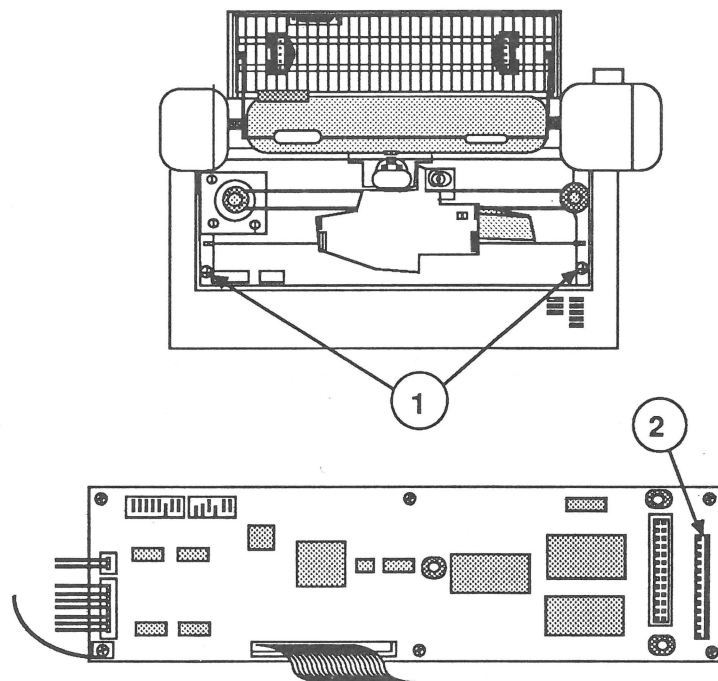

FIGURE 9
7. Loosen the two screws (Figure 9, #1) that secure the front cover, and remove the cover.
8. Be sure to detach the control panel cable from its connector (Figure 9, #2) on the right side of the main logic board.